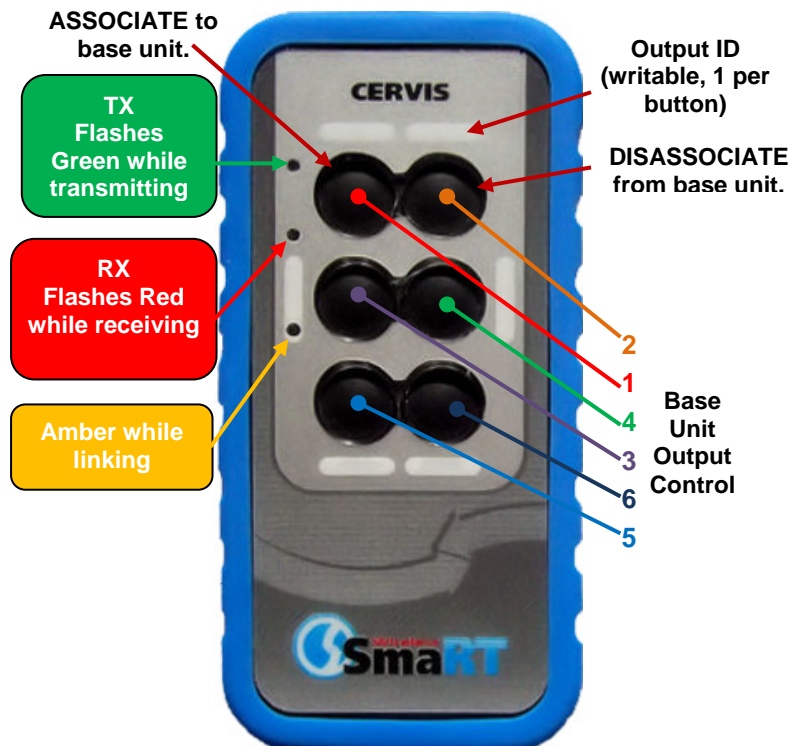

Figure 5. Handheld PTO Front Panel
3. Simultaneously press and hold the Association and Disassociation buttons (see Figure 5). The TX LED glows steady green.
6. Press and hold the Association button (see Figure 5 below). The RX extinguishes, the TX glows steady green, and the LINK LED glows steady amber.
3. Press and hold both the Associate and Disassociate buttons (see Figure 5). TX glows steady green.
5. When LINK flashes amber, release the two buttons. The RX button flashes red allowing two (2) seconds for you to make the next button press.
6. Press and hold the Disassociation button. (See Figure 5 above.) The RX extinguishes, the TX glows steady green, and the LINK LED glows steady amber.